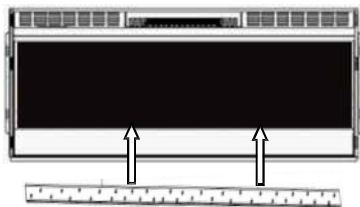

Figure 6-2
- D. Place the plastic tray to the fireplace designed place. then carefully place crystal or pebbles embers into the bottom tray on the front of the appliance as illustrated. Apply an even layer from side to side. **Figure 6-2, Figure 6-3, 6-4.**